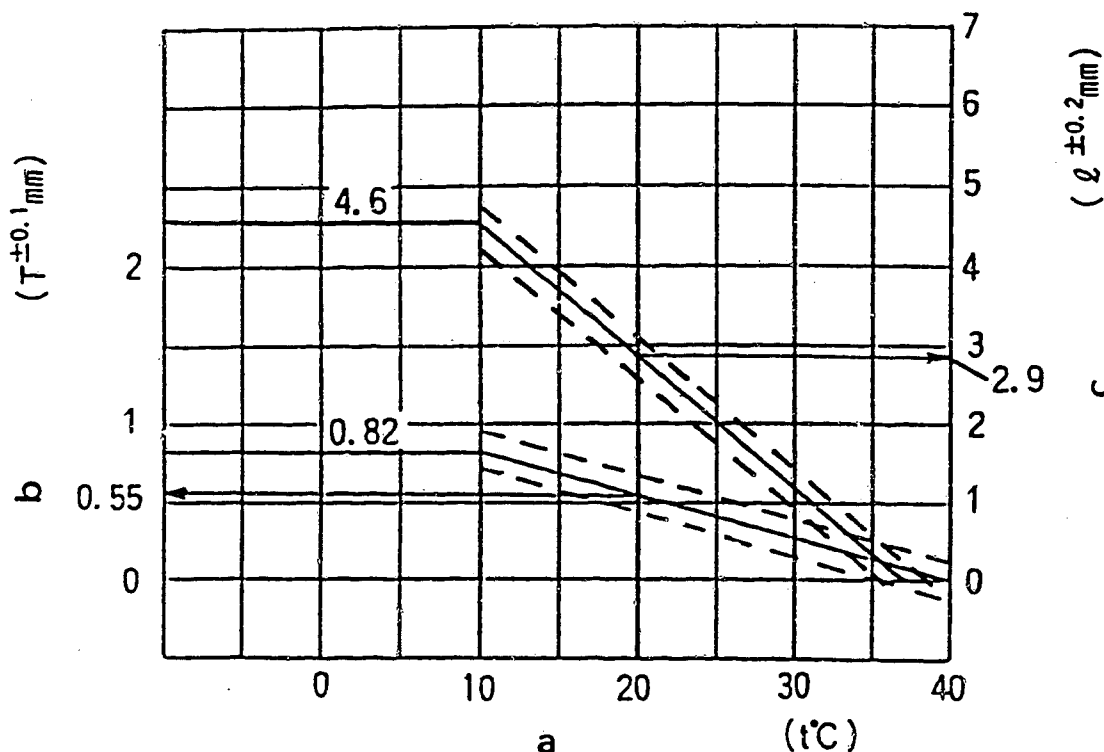

Figure 19
- 1) Calculate the timer stroke from Fig. 19 (diagram) according to the atmospheric temperature at the time of adjustment.
- 1) Calculate the block gauge dimension  $l \pm 0.05$  mm from (Fig. 19) according to the atmospheric temperature at the time of adjustment.
- 2) Insert the block gauge (thickness gauge) (selected in Fig. 19) between the bracket and the idling stopper bolt.